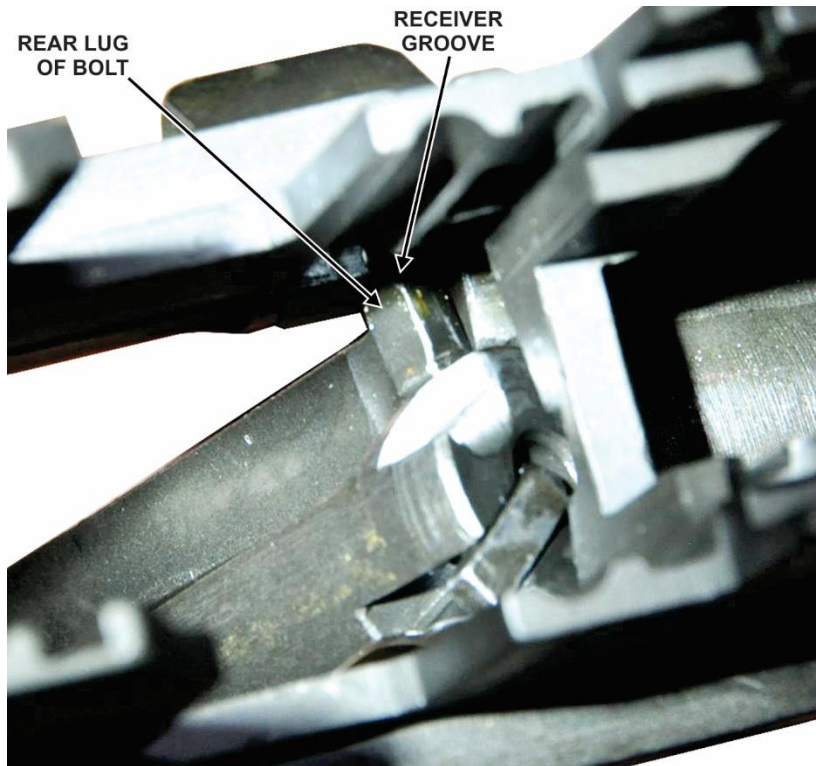

Figure 36. Rear lug in groove on receiver
- 6) To replace the bolt, hold the rifle upright and guide the rear lug of the bolt into its groove on the left side of the receiver (fig 36).
Note: Figures 36 and 37 show the rifle inverted. It is not necessary to invert the rifle but the figures are provided to aid in the bolt insertion.